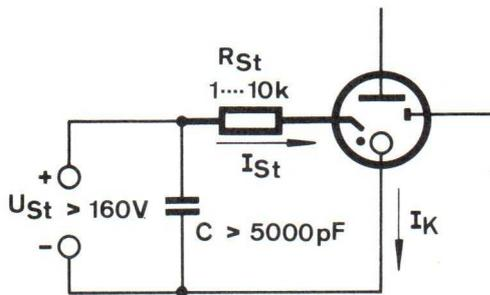

Fig. 5
4) Trigger capacitors of over 5.000 pF (e.g. in timer relays) need a current limiting resistor of 1 ... 10 k $\Omega$  in the starter circuit (Fig. 5).